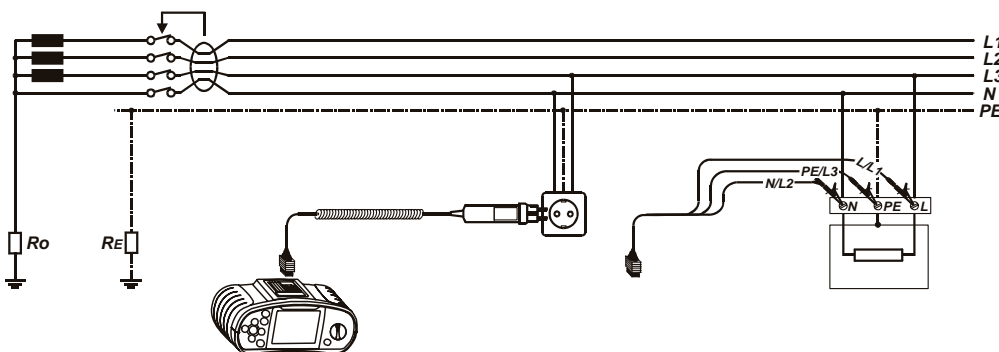

Figure 5.12: Connection of plug test cable or universal test cable
Step 3 Connect the test leads to the instrument and follow the connection diagram shown in figure 5.12 to perform contact voltage measurement. Use the **Help** function if necessary.
Step 3 Connect the leads to the instrument and follow the connection diagram shown in figure 5.12 (see the chapter 5.3.6 *Contact voltage*) to perform trip-out time measurement.
Step 3 Connect the test leads to the instrument and follow the connection diagram shown in figure 5.12 (see the chapter 5.3.6 *Contact voltage*) to perform trip-out current measurements. Use the **Help** function if necessary.
Step 3 Connect the test leads to the instrument and follow the connection diagram shown in figure 5.12 (also see the chapter 5.3.6 *Contact voltage*) to perform the RCD autotest. Use the **Help** function if necessary.